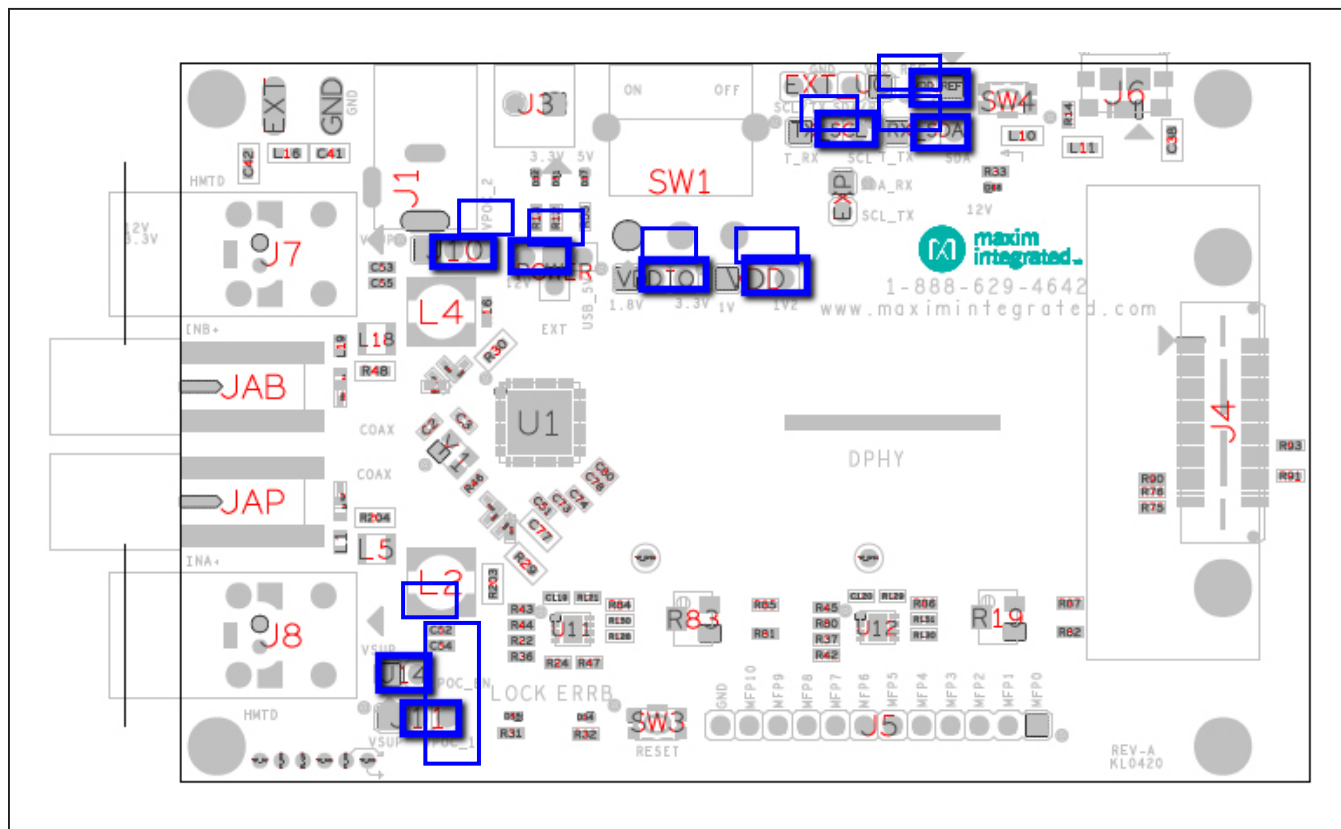

Figure 2: MAX96716/MAX96792 Deserializer EV Kit Default Jumper Settings
- 3) Assure that all jumper positions on the PCB are properly set to meet the requirements of the user's application. Figure 2 and Table 2 show the possible jumper positions for various configurations. The default jumper settings put the Device Under Test (DUT) into I2C mode, select 1.8V as the VDDIO voltage, select 1V as the VDD voltage, and cause the board to be powered by 12V DC barrel jack.